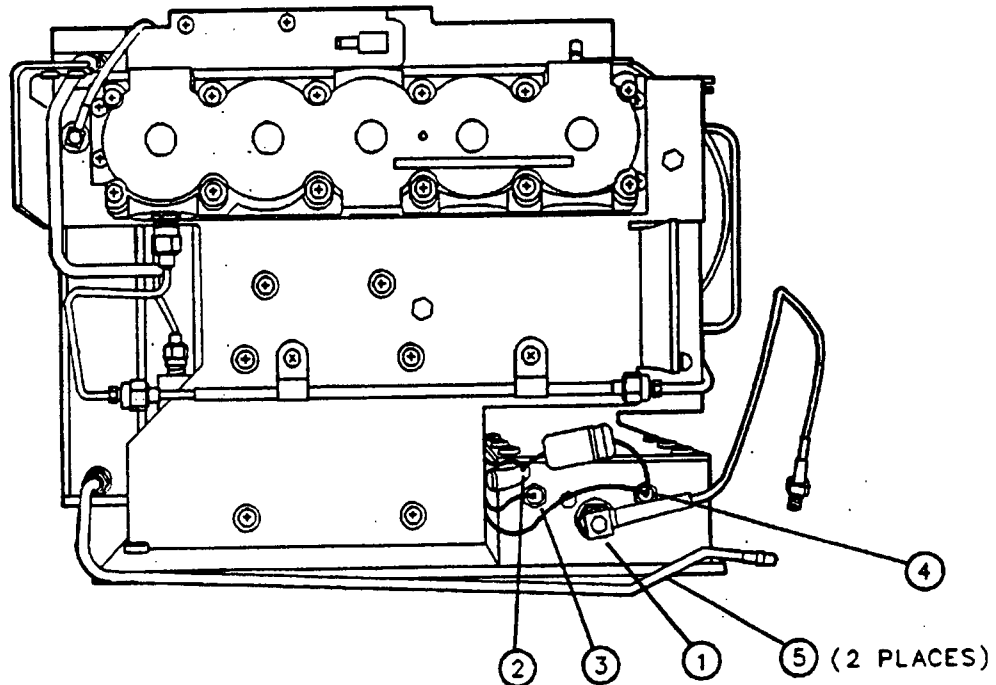

Figure 3-12. A3A1 Comb Generator Replacement
3. Disconnect the W24 coaxial cable (1) from the A3A1 Comb Generator. See Figure 3-12.
4. Desolder the orange wire (2) from the ground lug on the comb generator.
5. Desolder the violet wire (3) from the terminal on the comb generator.
6. Desolder the yellow wire (4) from the terminal on the comb generator.
7. Remove the two screws (5) that secure the comb generator to the "A" and "B" brackets.
2. Replace the two screws (5) that secure the comb generator to the "A" and "B" brackets. See Figure 3-12.
3. Solder the yellow wire (4) to the terminal on the comb generator.
4. Solder the violet wire (3) to the terminal on the comb generator.
5. Solder the orange wire (2) to the ground lug on the comb generator.
6. Connect the W24 coaxial cable (1) to the A3A1 Comb Generator and position it as shown in Figure 3-12.